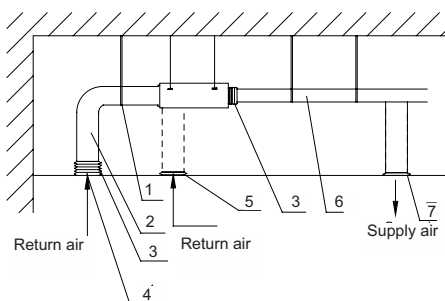

Figure 1-1-11
- Installation of rectangular air duct, as shown in Fig. 1-1-11